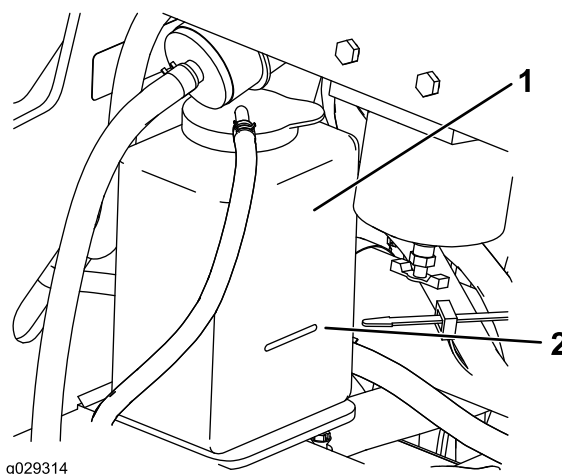

Figure 68
3. Check the coolant level in the expansion tank (Figure 68).